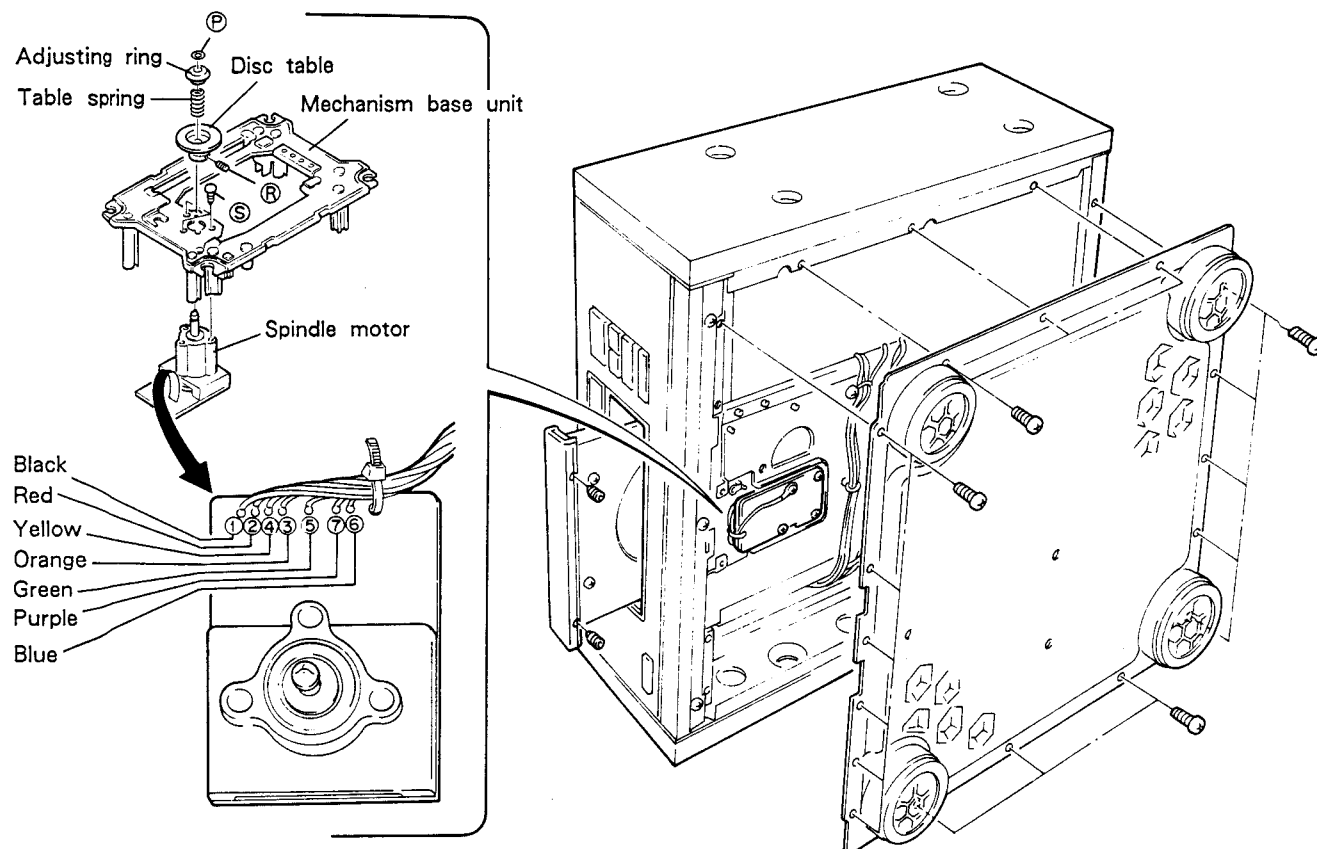

Fig. 2-5.
2. Remove the split washer ⑤ fixing the adjusting ring. (Refer to Fig. 2-5.)
4. Loose the screws ⑥ of the disc table from the opening part of the front panel with the hexagonal driver and remove the disc table.
5. Remove the fixing screws ③ (3) of the spindle motor.
6. Remove the lead wires (7) wired as shown in Fig. 2-5, with a soldering iron.